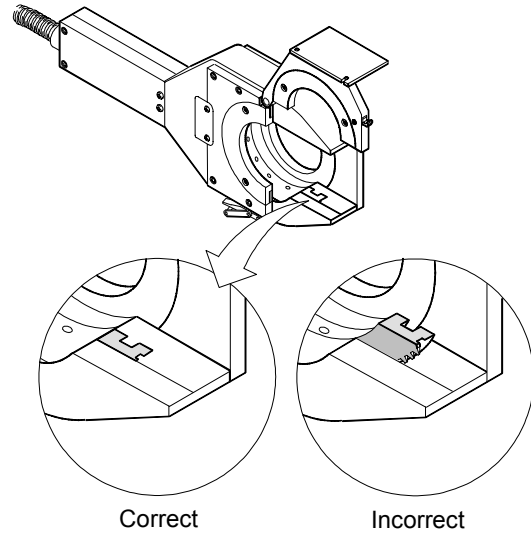

Figure 13 Rotor Position
4. Verify the rotor completes two revolutions then check that no part of the rotor is exposed after it stops. See Figure 13.